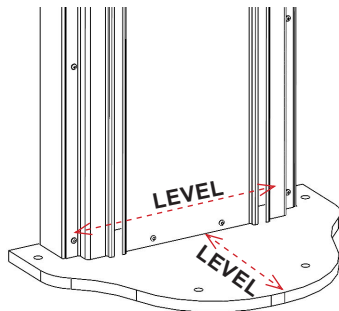

FIGURE 2.4 - Level Base Plate
STEP 2: Level the base plate left to right and front to back, shim as required. See FIGURE 2.4